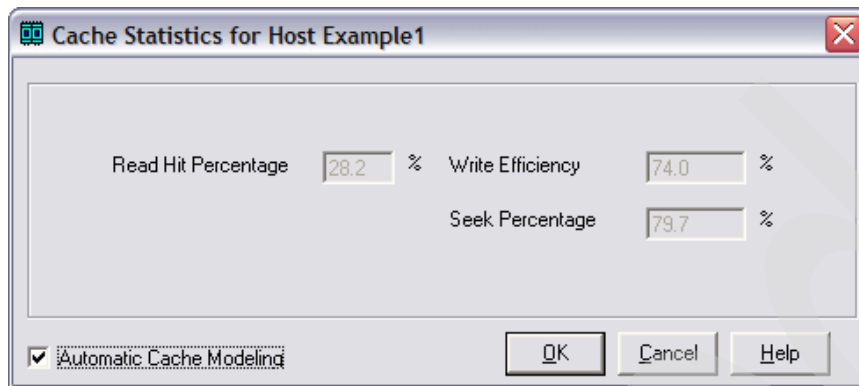

Figure 4-39 Automatic cache modeling
- i. In the Cache Statistics for Host window (see Figure 4-39), notice that Disk Magic models cache usage on DS8000 automatically based on the reported current cache usage on internal disks. Click **OK**.